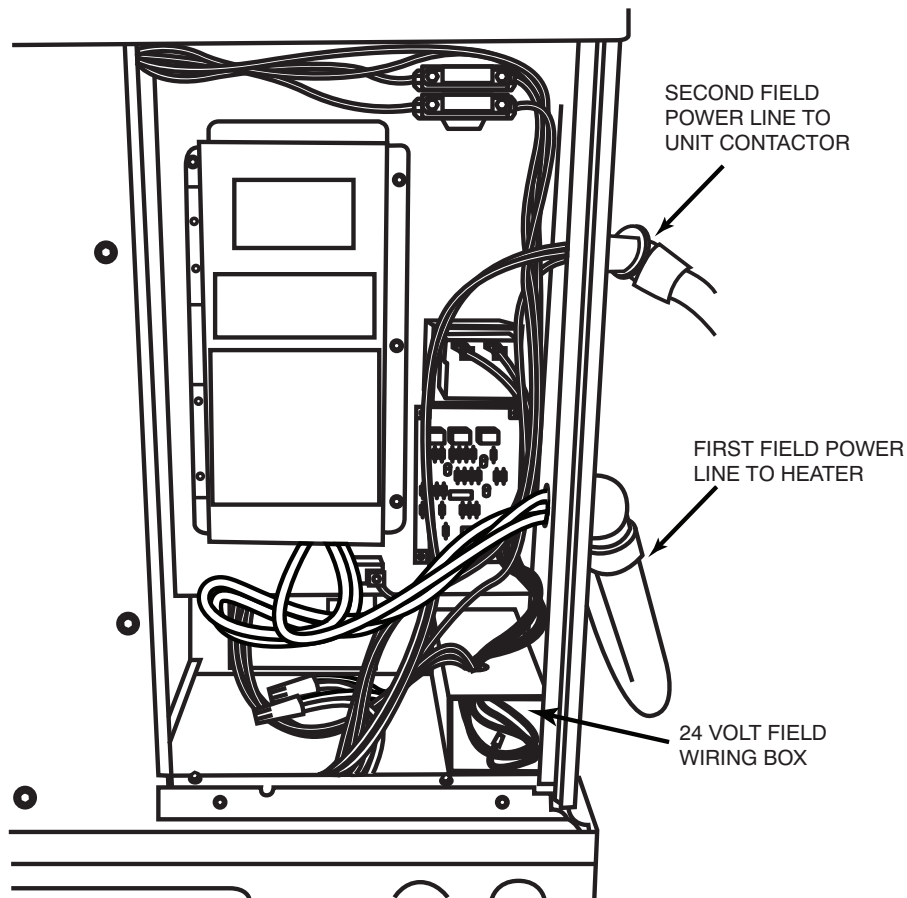
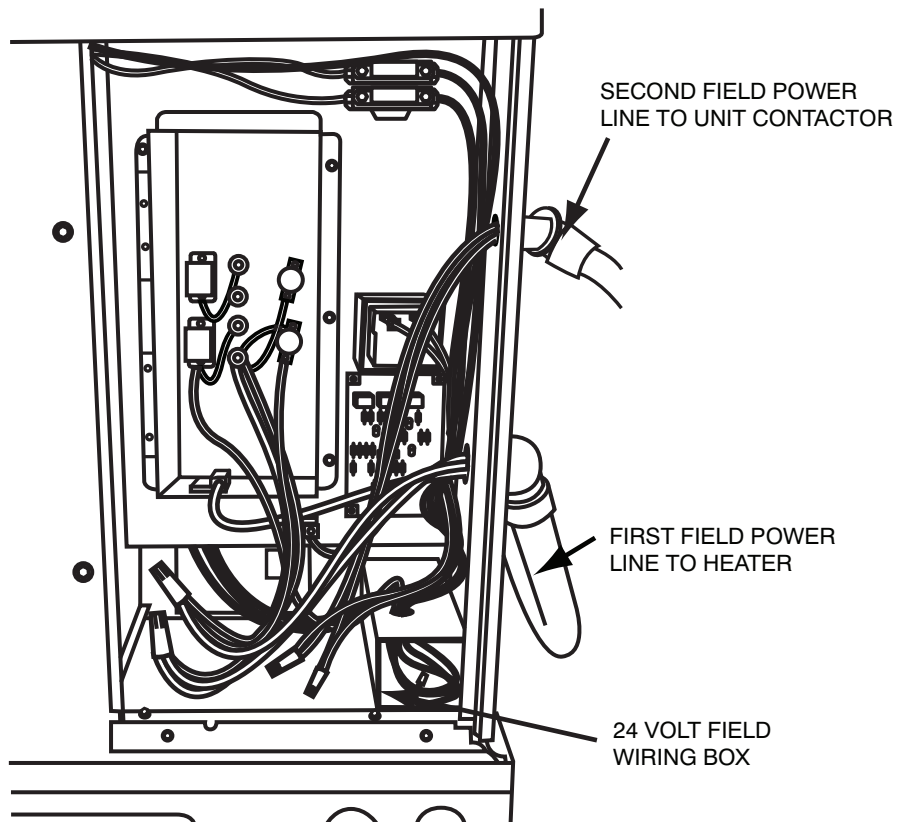

Fig. 8 - Dual Point Connections for Fused Heater
Fig. 9 - Dual Point Connection for Non-Fused Heater
3. Insert first field power line through the electrical heater access panel bottom hole (see Fig. 8 or Fig. 9) and connect to electric heater as shown in their respective wiring diagram found on the heater accessory kit. Fused electrical heaters field lines will be connected to the fuse block lugs (see Fig. 10.) and non fused electric heater field lines will be connected to heater leads using wire nuts. Ground electrical equipment in the appropriate locations.
4. Insert second field power line through the electrical heater access panel top hole (see Fig. 8 or Fig. 9) and connect to unit contactor black and yellow leads using wire nuts. Ground electrical equipment in the appropriate locations.